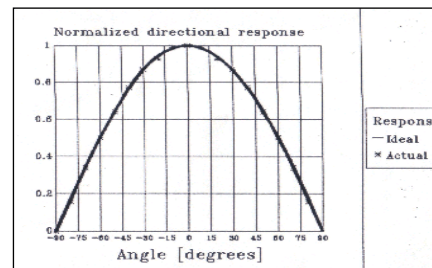

Fig. 1
**Spectral response :** As indicated in Fig. 1 (nominal values).
**Angular response :** As indicated in Fig. 1 (nominal values).